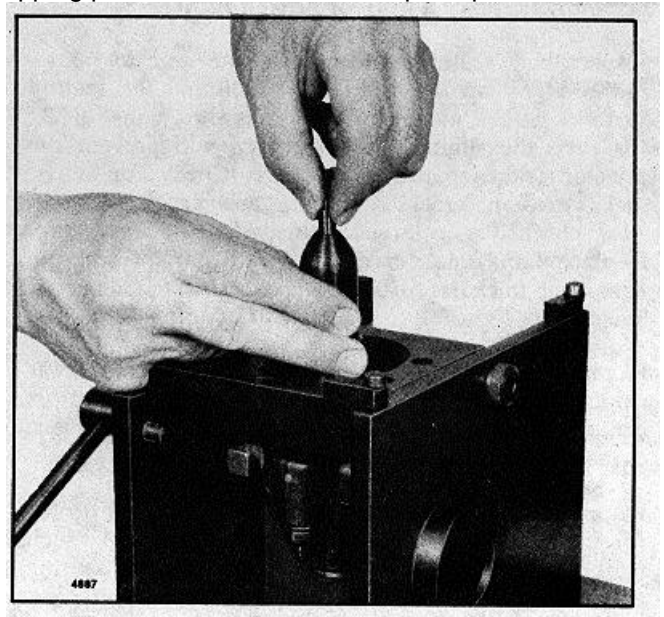

Fig. 40. Tightening Injector Nut by Hand
8. Lubricate the threads in the injector nut and carefully thread the nut on the injector body by hand. Rotate the spray tip between your thumb and first finger while threading the nut on the injector body (Fig. 40). Tighten the nut as tight as possible by hand. At this point there should be sufficient force on the spray tip to make it impossible to turn with your fingers.